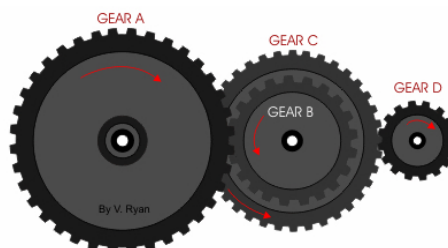

Figure 4.3: Compound gear.
Compound gears: When two or more gears are fixed together on the same axis of rotation they are called a compound gear (Figure 4.3). Compound gears rotate at the same speed, even though they usually have a different amount of teeth. This allows for a much greater increase or decrease of speed from the driving to the driven shaft, compared to a classical gear train. The gear ratio for the whole compound gear train, assuming gear A is the driving gear, is: $r = Z_{GearB} / Z_{GearA} * Z_{GearD} / Z_{GearC}$. Follow this link if you want more information about compound gears:
8. Take the setup of Figure 4.3. Assume Gear A has 60 teeth, Gear B has 18 teeth, Gear C has 48 teeth, Gear A rotates at 5 RPM and Gear D rotates at 40 RPM. How many teeth does Gear D have? **(PreLab Q8)**